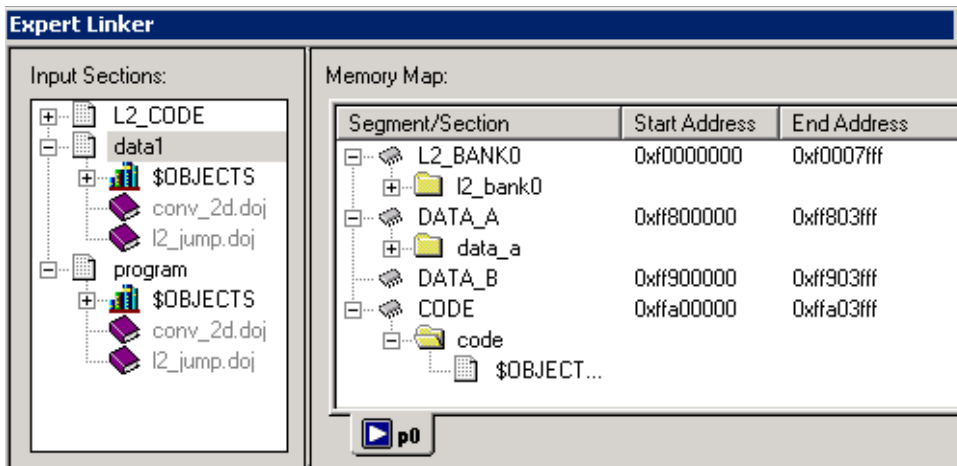

Figure 2-15. Expert Linker Window – Memory Map
- **Memory Map Tree** — Displays the memory map in a “tree” representation (see Figure 2-15 on page 2-23).